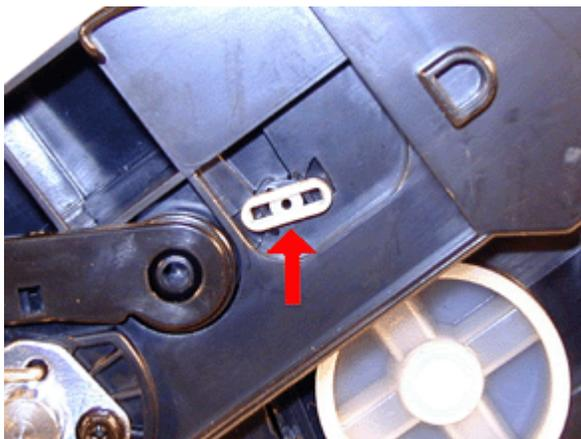

FIGURE 2
1. On either side of the cartridge is a white plastic oval shaped plastic pin. This is what holds and locks both halves together. Rotate and remove both of the pins. See Figures 2 & 3